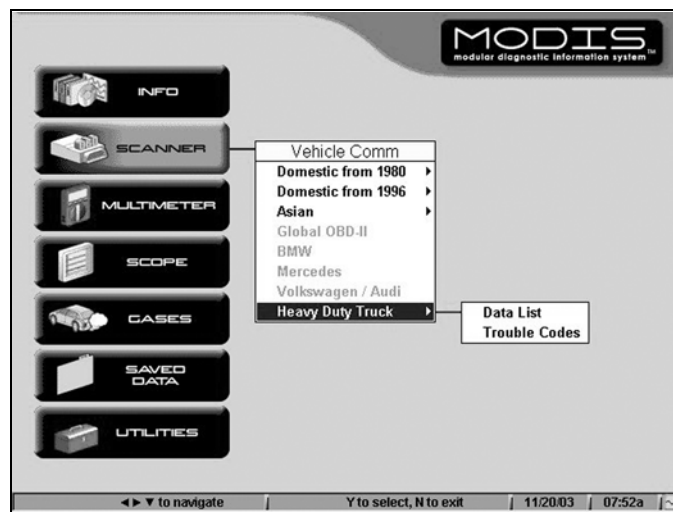

Figure 4-1 Scanner selection from MODIS™ Main Menu
2. On the main menu (Figure 4-1), select **Scanner > Heavy Duty Truck**